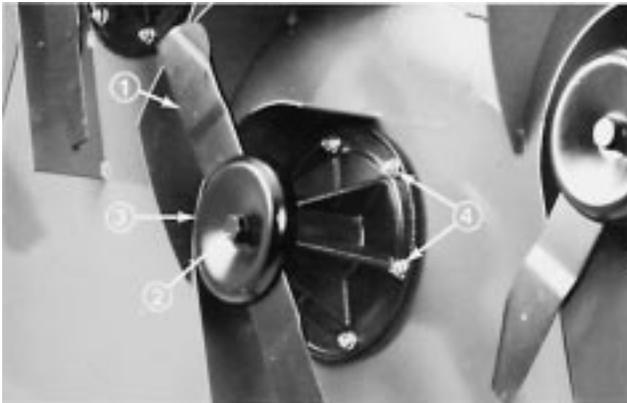

Figure 60
- Using a rag or thickly padded glove, grasp end of blade. Remove blade bolt, lockwasher, anti-scalp cup and blade from spindle assembly (Fig. 60).